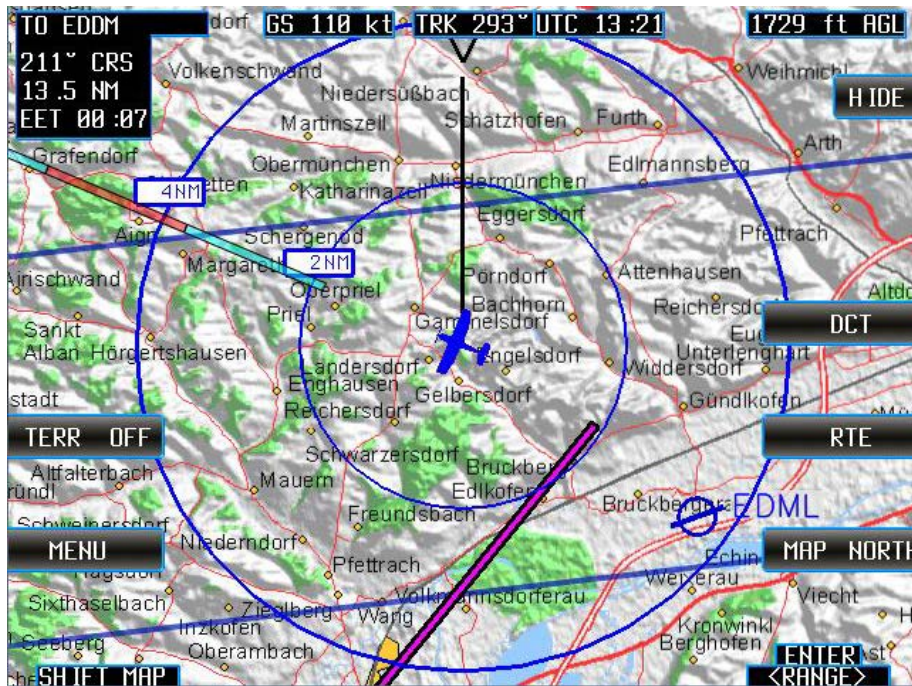

Figure 58: Direct-to „DCT“, After the aircraft has moved further away
- The bearing line is displayed on the map (Figure 58).